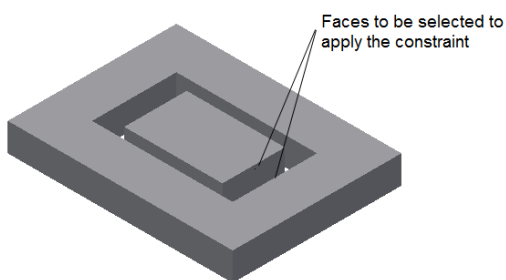

Figure 18-38 Faces selected to apply the **Mate** constraint
- Modify the dimensions of the inner cavity of the Outer Plate. The size of the Inner Plate again changes automatically to retain the design intent, refer to Figure 18-38.
10. Now, change the display type of both the plates to **Shaded** and apply the **Mate** constraint with an offset value of 10 mm between the selected faces, as shown in Figure 18-38. Also,